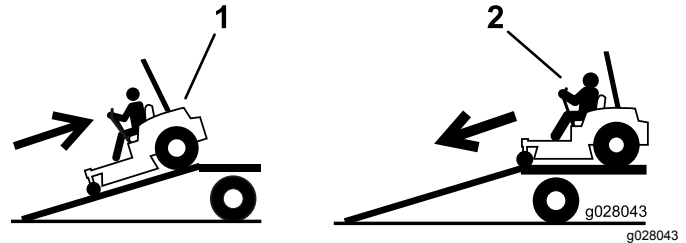

Figure 35
4. Back the machine up the ramp (Figure 35).
2. Drive the machine forward down the ramp (Figure 35).